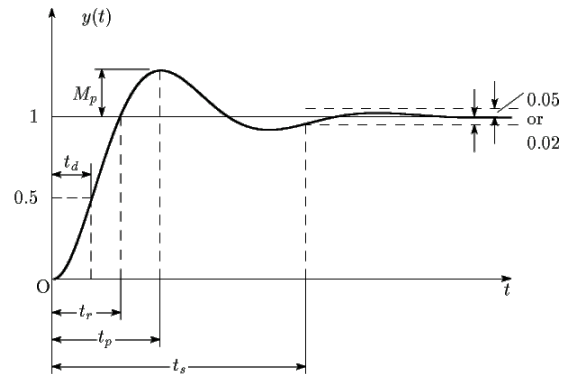

Figure 1: A Parametrized PID Response Curve
- Rise time: The amount of time it takes the system to go from 10% to 90% of the target value (t_r in Figure 1).
- Settling time: The amount of time it takes the system to settle within a certain percentage of the target value (t_s in Figure 1).
- Overshoot: The maximum value the system takes above the target value (M_p in Figure 1).